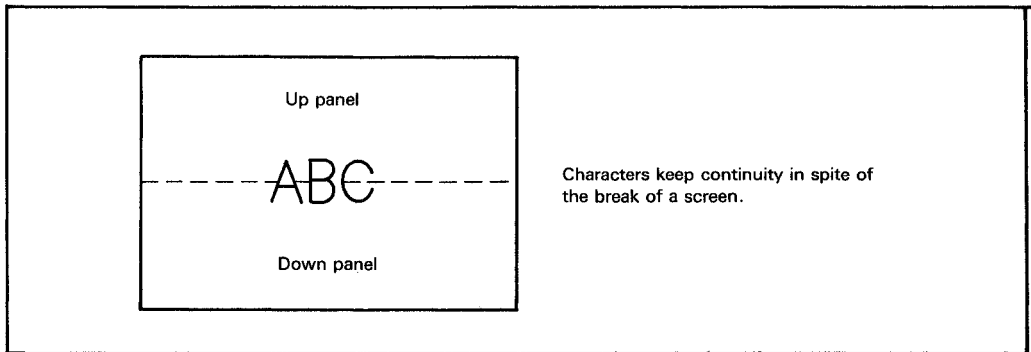

Figure 19. Example of the Display in the Character Mode
When the LCTC mode is set for character display and dual screen, memory addresses (MA) and raster addresses (RA) are output in such a way as to keep continuity of display spreading over the two panels. Therefore users can use the LCTC without considering the multiplexing duty ratio (the number of vertical dots of a screen) or the character font. (See figure 19.)